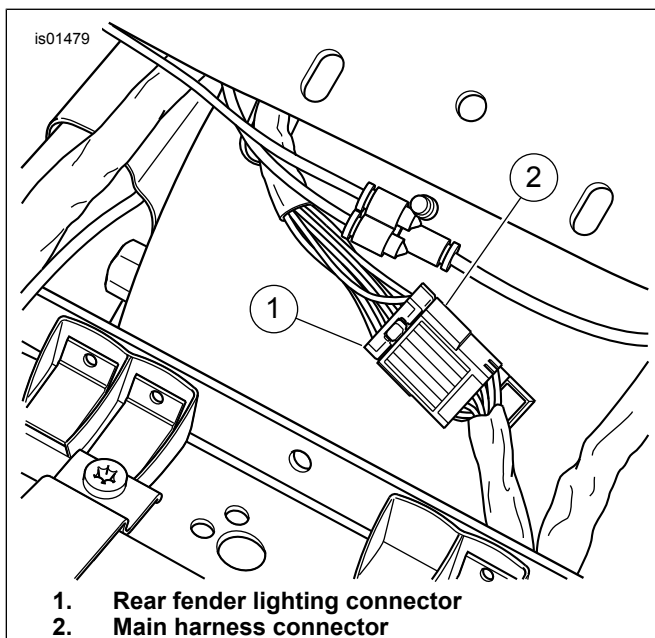

Figure 1. Typical Rear Fender Lighting Connector (FLHTC shown)
1. See Figure 1. Locate the rear wiring harness coming out of the rear fender in the area underneath the seat. Disconnect the rear fender wiring connector (1) from the main harness connector (2).